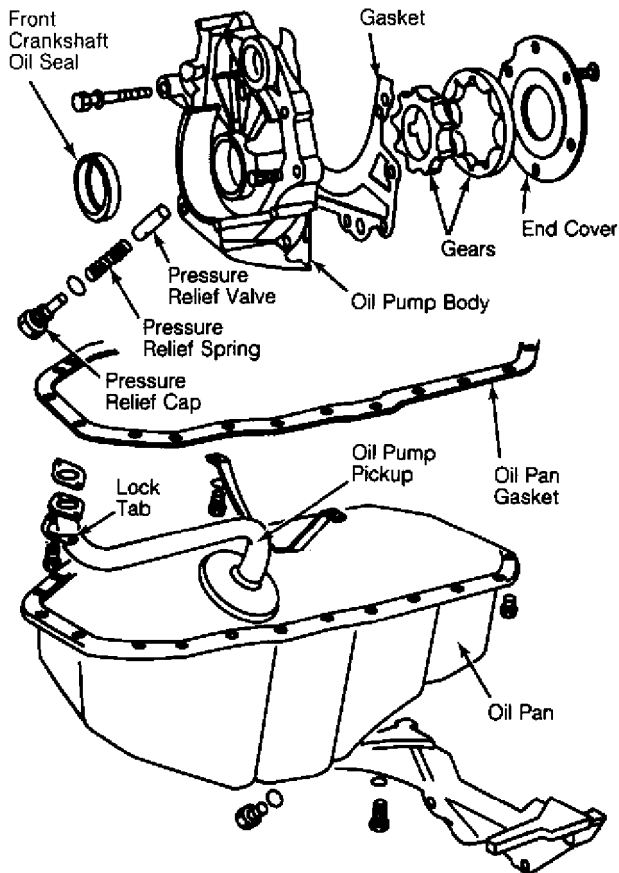

Fig. 7: Oil Pump, Pick-Up & Pan
Slipper gear-type pump is used. Oil pump is mounted at front of engine and driven by crankshaft. See Fig. 7. Oil is lifted from pan by oil suction tube, which extends from oil pump. Oil is then fed to internal engine moving parts. Lubrication is either by pressure feed or drainage method.
4) Drain engine oil and remove oil pan. Remove oil suction tube from oil pump. Remove oil pump. Remove end cover from pump housing. Lift out outer and inner pump gears. See Fig. 7.